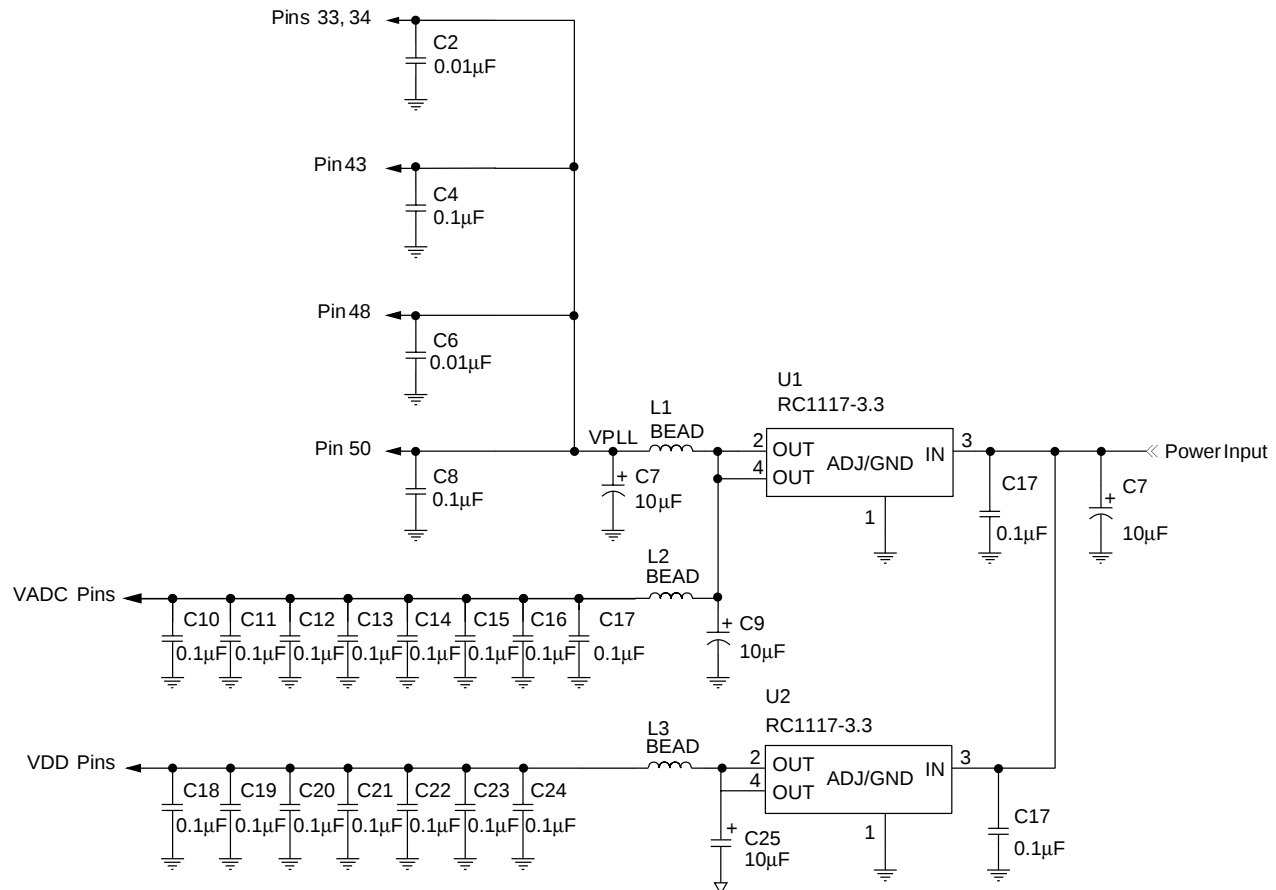

Figure 32. Recommended Power Distribution
A schematic of the recommended power distribution is shown in Figure 32. Note that:
3. Each V_{DDP} /GND pin pair: 33&34/35, 43/42, 48/47, and 50/49 should be decoupled with a 100–1000p/10 μ F pair of capacitors (see Figure 32). If board space is limited, use as many capacitor pairs as possible.